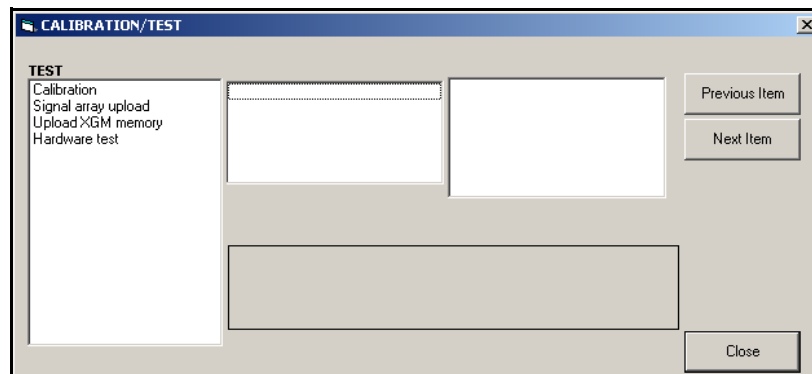

Figure 10: The *Calibration/Test* Menu
5. To enter data into the user program, double-click on the *Calibration/Test* menu. The window appears similar to *Figure 10* below.
1. From the *Calibration/Test* menu (see Figure 10 on page 38), double-click on the *Calibration* entry to open the option.
To calibrate any option card installed in Slot 1 of the XGF868i, enter the *Calibration/Test* menu as shown in *Figure 10* on page 38.